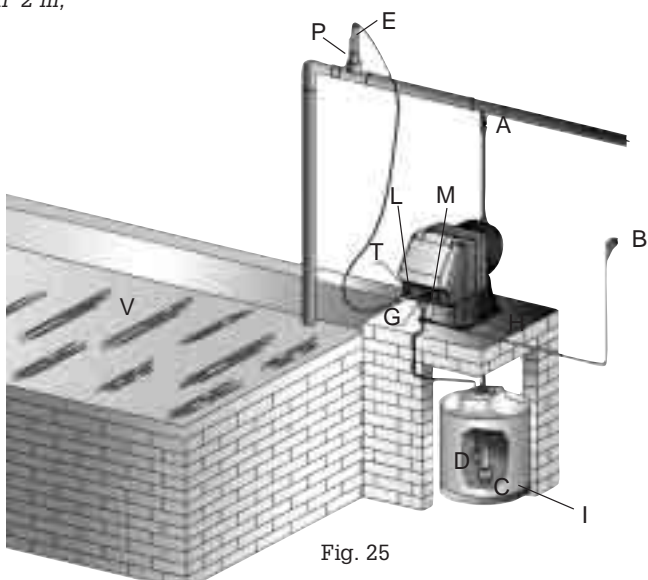

Fig. 25
10.2 - TYPICAL INSTALLATION (Fig. 25)